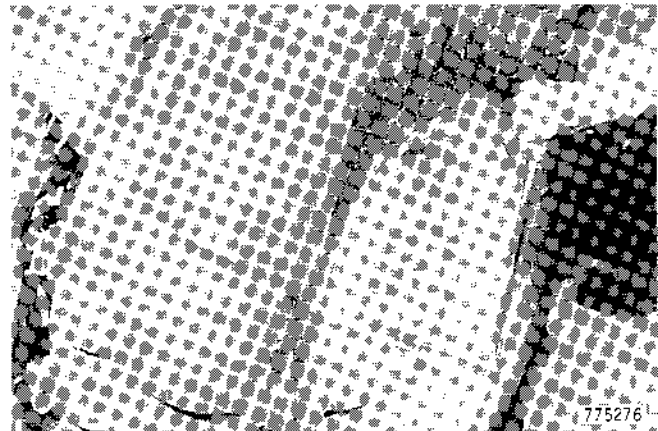

Figure 81
6. Install rear wheels and tighten the nuts to a torque of 120 foot-pounds (163 N m), Figure 81.